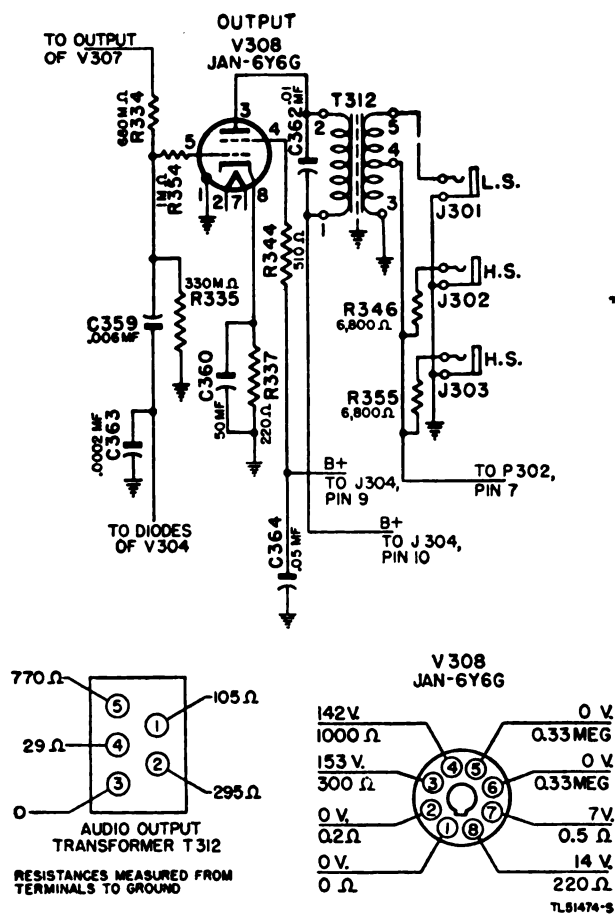

Figure 22. Audio output amplifier stage schematic, Radio Receiver BC-652-A.
a. STAGE DATA. (1) Audio-output amplifier stage schematic shown in figure 22.
(fig. 22)